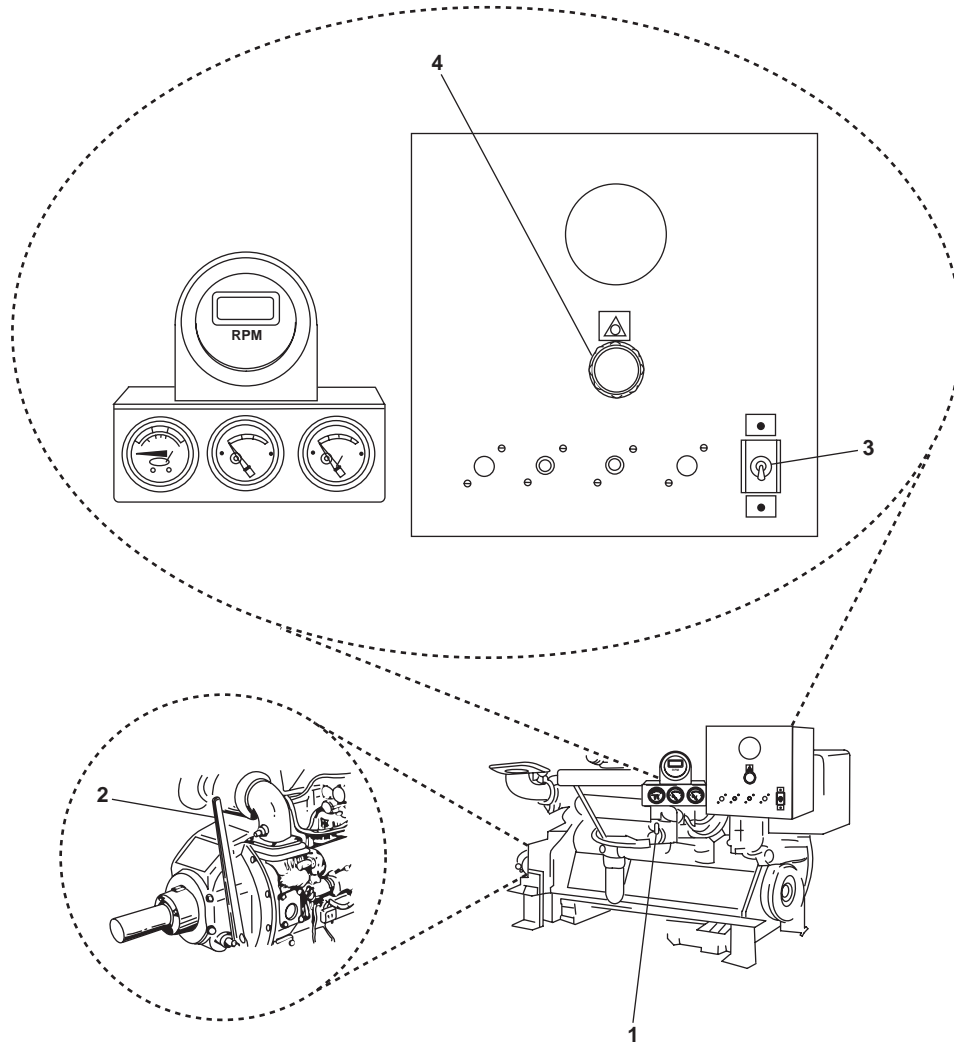

Figure 6. Pump Drive Engine
- a. Move the governor control lever (figure 6, item 1) to half engine speed position.
- b. Place the power take-off control lever (figure 6, item 2) in the disengaged (aft) position.
- d. Pull upward on the governor control lever (figure 6, item 1) and move the lever to OFF.
- e. Place the OFF-RUN-START toggle switch (figure 6, item 3) to OFF.
- f. Push in the START/STOP pushbutton (figure 6, item 4).